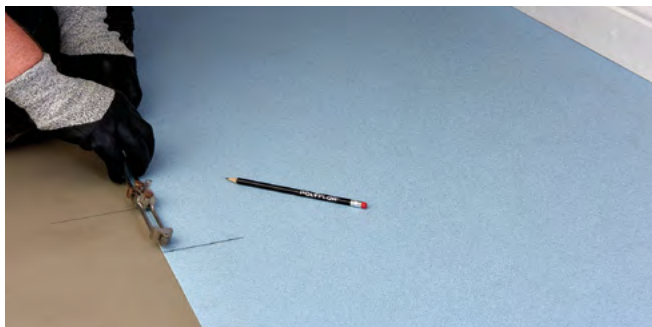

Figure 3.4 Setting the scriber
- ▶ Set the scribers to the distance now between lines C and D (Figure 3.4). Trace the end wall profile and cut to fit as described earlier.